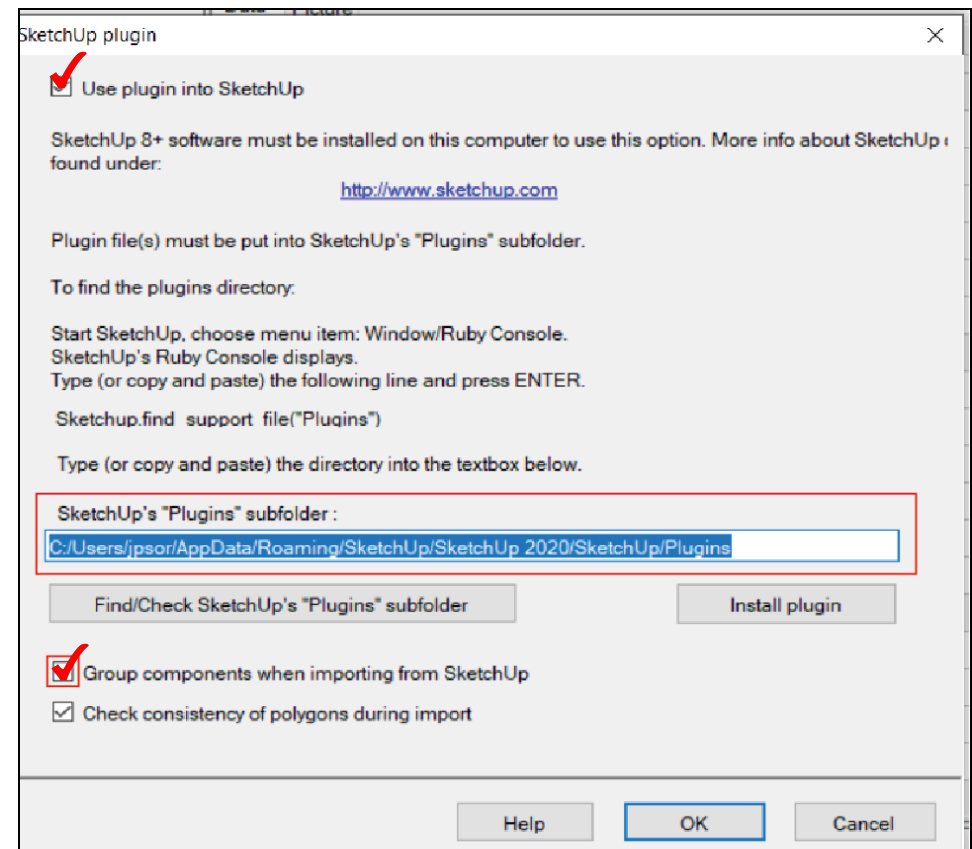

Figure 2.1. Screenshot from WUFI Passive showing steps 2 and 5 from Section 2.1.
2. In WUFI Passive go to **Options → SketchUp Plugin**. Check **Use plugin into Sketchup**. Copy the following text from the WUFI Passive Screen (you will paste this text in step 4) (Figure 2.1):